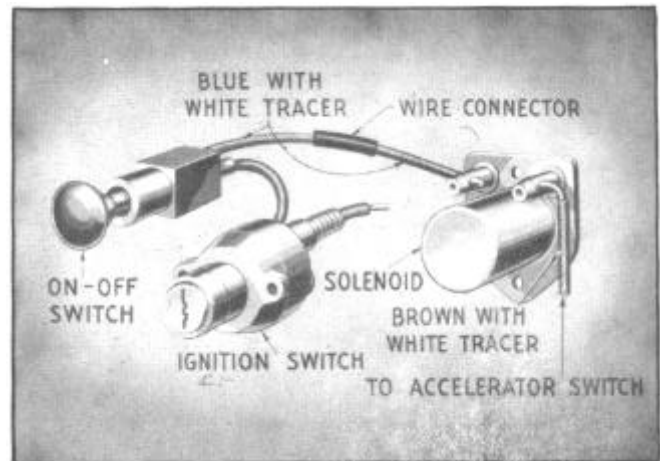

Figure 27--Upper Wiring Harness
- A. Lead blue wire with white tracer inside of dash compartment through main cable hole in dash and connect to instrument panel switch, see Figure 27.